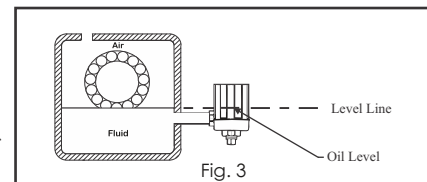

Fig. 3
6. Verify the lower casting is level and parallel with desired oil level (Fig. 3). Make necessary adjustments if needed (the **Opto Laser Level Tool** can be used to help with alignment).
7. From the oil level mark indicated on the equipment, use a level to put a mark on the outside of the Opto-Matic lower casting to indicate where the oil level should be (Fig 3).